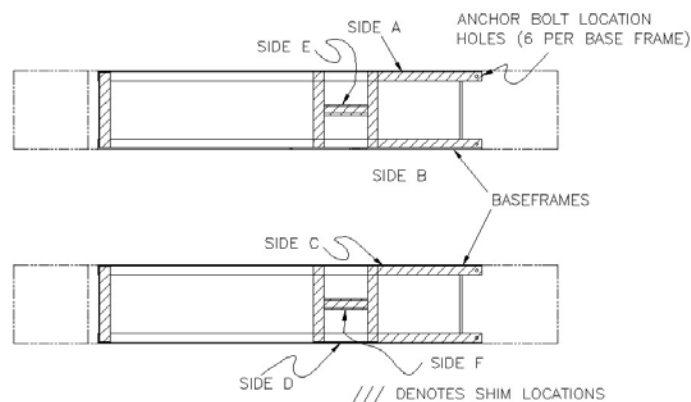

Figure 7 - Leveling Procedure Example
1. The highest point on the floor, noted from Section 5.1 step 6 is the point from which the base frame will be leveled from. Raise the lift to full height and, using a four (4) foot level across the base frames, verify again that this is the highest point.
2. Starting at the corner closest to the highest point, check along the length of the base frame edge with the four foot level and shim as required. **NOTE THE FIVE CRITICAL POSITIONS THAT SHIMS MUST BE PLACED ON EACH BASE FRAME OF EACH MAIN FRAME ASSEMBLY.** Refer to Figure 7.